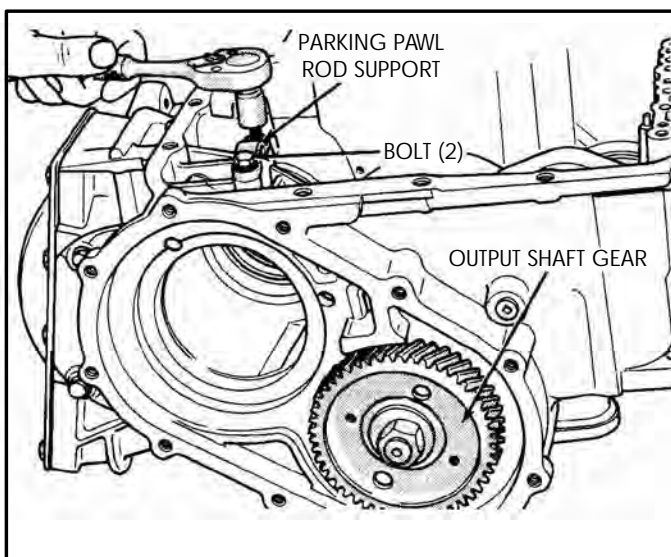

Figure 202
18. Install the parking rod support and torque bolts to 28 N·m (20 ft.lb.). (See Figure 202).